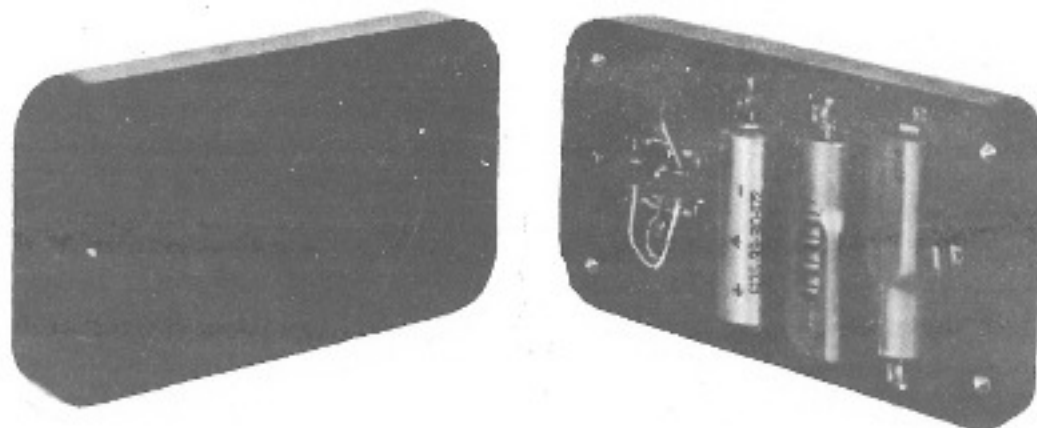

Fig. 12. The Battery Pack open.
22. To change a battery, open the pack by removing the four fixing screws from the corners. The batteries will be displayed as shown in Fig. 12.